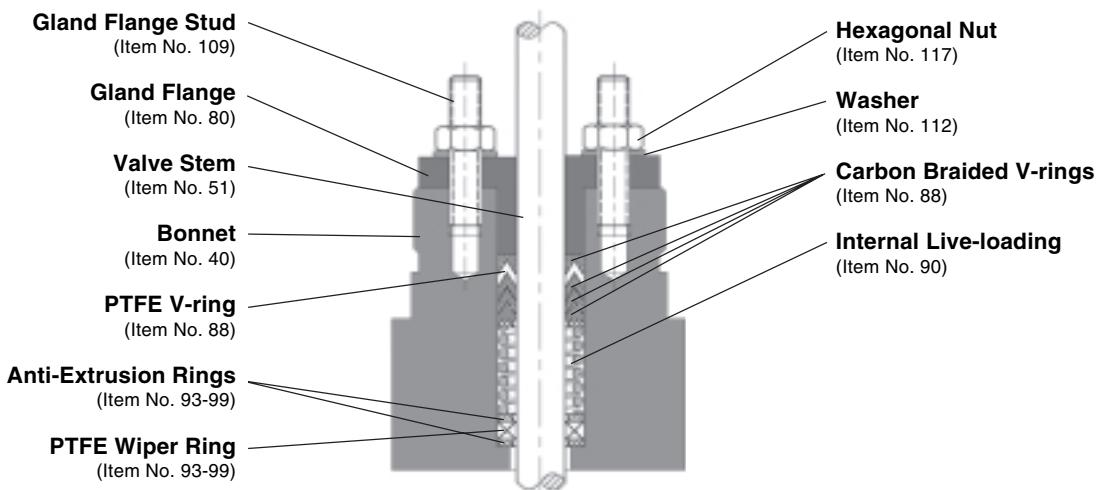

Figure 2: V-ring Standard Bonnet (Internal Live-loading Shown)
1. Remove the actuator, bonnet (40) and plug (50) from the valve body. (See *Replacing Plug Procedure* steps 1-5.)
2. Replace the seat ring using a suitable seat-ring tool (Figure 2). Seat removal tools can be purchased from Flowserve if required. (See Table III.)